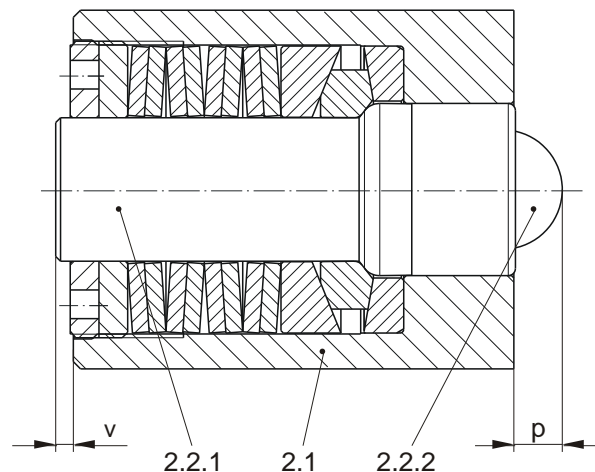
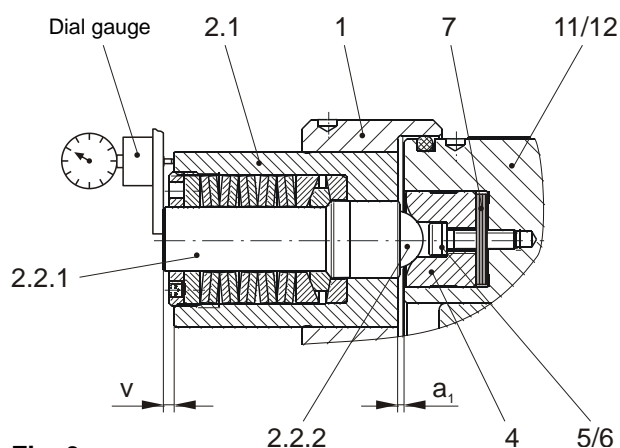
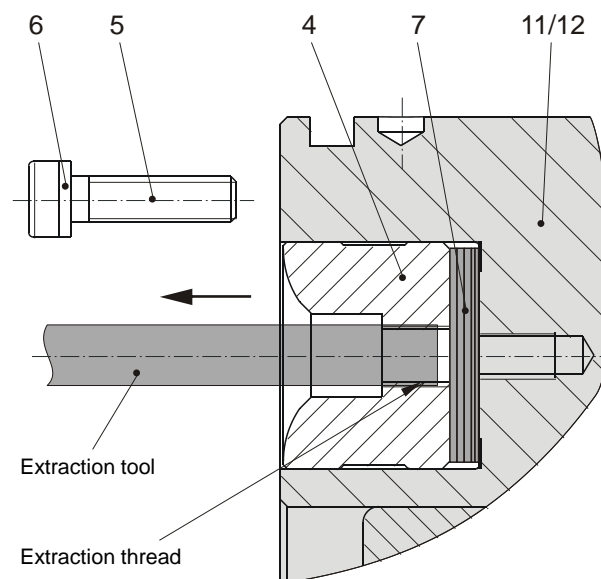

Fig. 2
Fig. 3
Fig. 4
- ❑ The overload element (2) and the thrust piece (4) must align exactly with each other (Fig. 3).
- ❑ The distance dimension "a₁" acc. Table 1 must be given (Fig. 3 / air gap between the hub (1) and the pressure flange (11/12) or the customer flange, on engaged elements).
- ❑ Determine the pre-tensioning using difference dimension measurement "v" (see Figs. 2 and 3). Dimension "v" is the distance from the bolt end (2.2.1) to the facing side of the screw-on bushing (2.1).
- ❑ Pre-tension the element by placing shim rings (7) under the thrust piece (2).
- ❑ For de-installation of the thrust piece (4), please see Fig. 4.
1. De-install the overload element (2).
3. Using the inspection dimension "p" (see Table 1 and Fig. 2), the axial contact of the bolt (2.2.1) can be checked.
4. Measure and note the bolt excess length "v" (Fig. 2) on the de-installed overload element (2).
5. Mount the thrust piece (4) and the overload element (2) into the adaptor bores.
6. Measure the bolt excess length "v" (Fig. 3) again and compare it to the noted value. The difference dimension equals the bolt pre-tension.
7. In order to correct the pre-tension, both the overload element (2) and the thrust piece (4) must be de-installed again.
8. Now the required pre-tension acc. Table 1 can be set by adding or removing shim rings (7) under the thrust piece (4).
The marking bores on the outer diameters of the hub (1) and the pressure flange (11/12) must align with each other (Fig. 3).